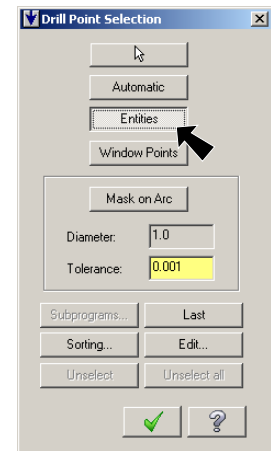

Fig. 18
Step 5. Click the **Entities** button in the Drill Point Selection dialog box, **Fig. 18**.
Step 7. Click OK  in the Drill Point Selection dialog box, **Fig. 18**.